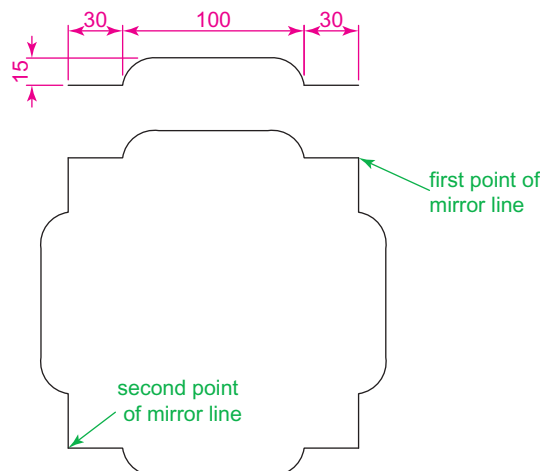

Fig. 5.10 Second example – **Mirror**
Second example – Mirror (Fig. 5.10)
1. Construct the outline shown in the dimensioned polyline in the upper drawing of Fig. 5.10.
2. Call **Mirror** and using the tool three times complete the given outline. The two points shown in Fig. 5.10 are to mirror the right-hand side of the outline.